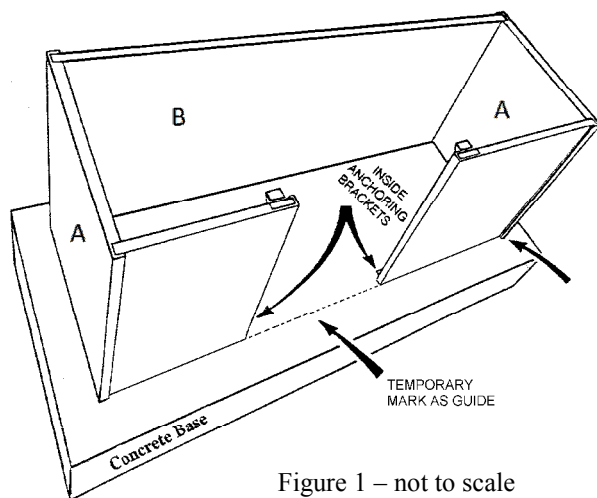

Figure 1 – not to scale
- 2. Using four (4) hex headed screws per joint assemble the "A-B-A" assembly through the holes provided. Set the assembly on the marked concrete base (Figure 1).**